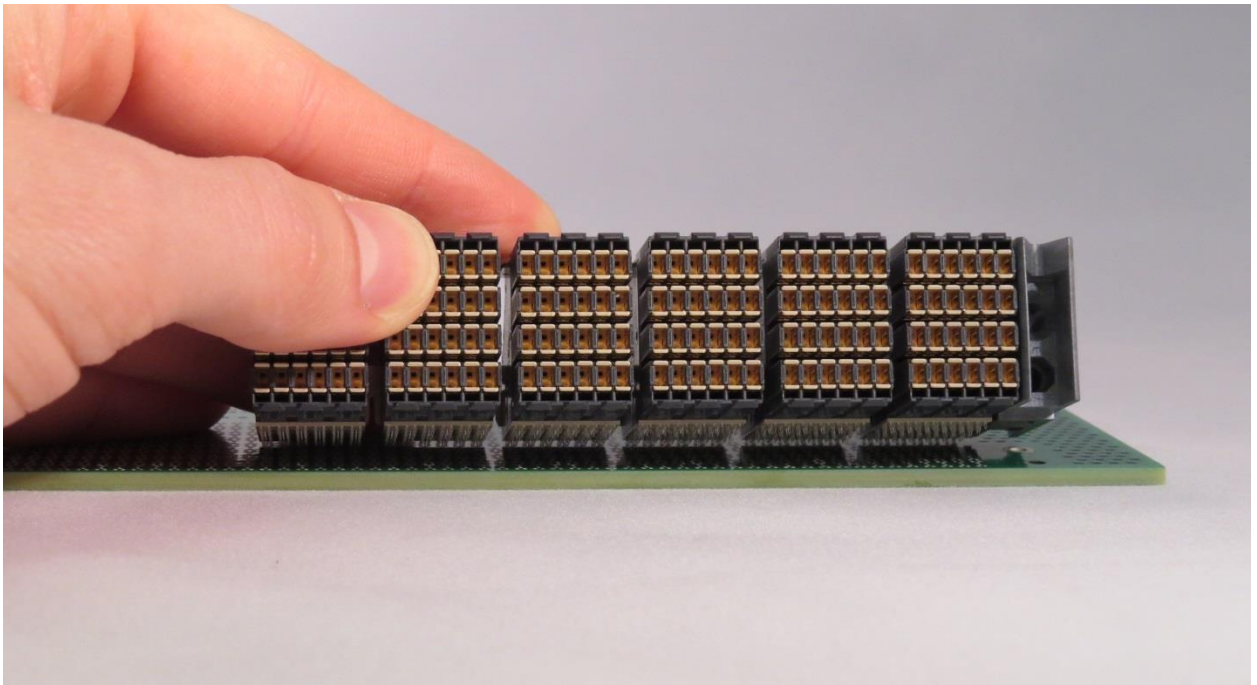
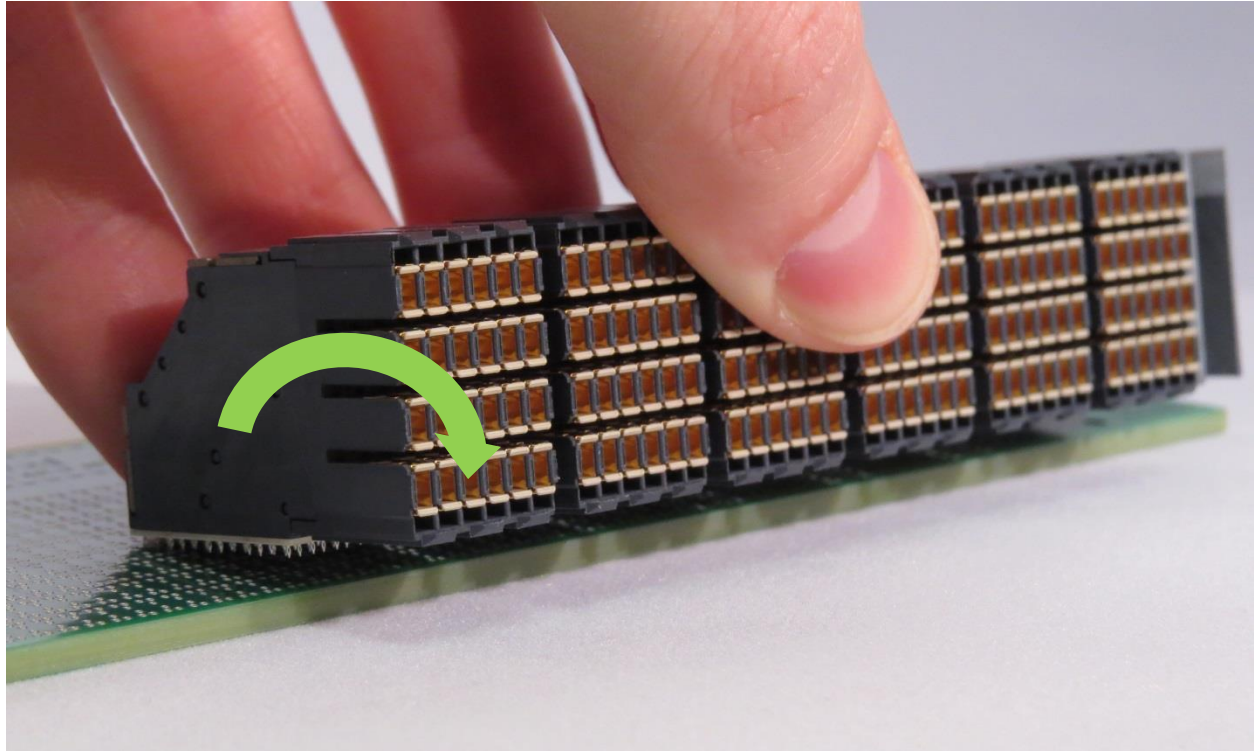
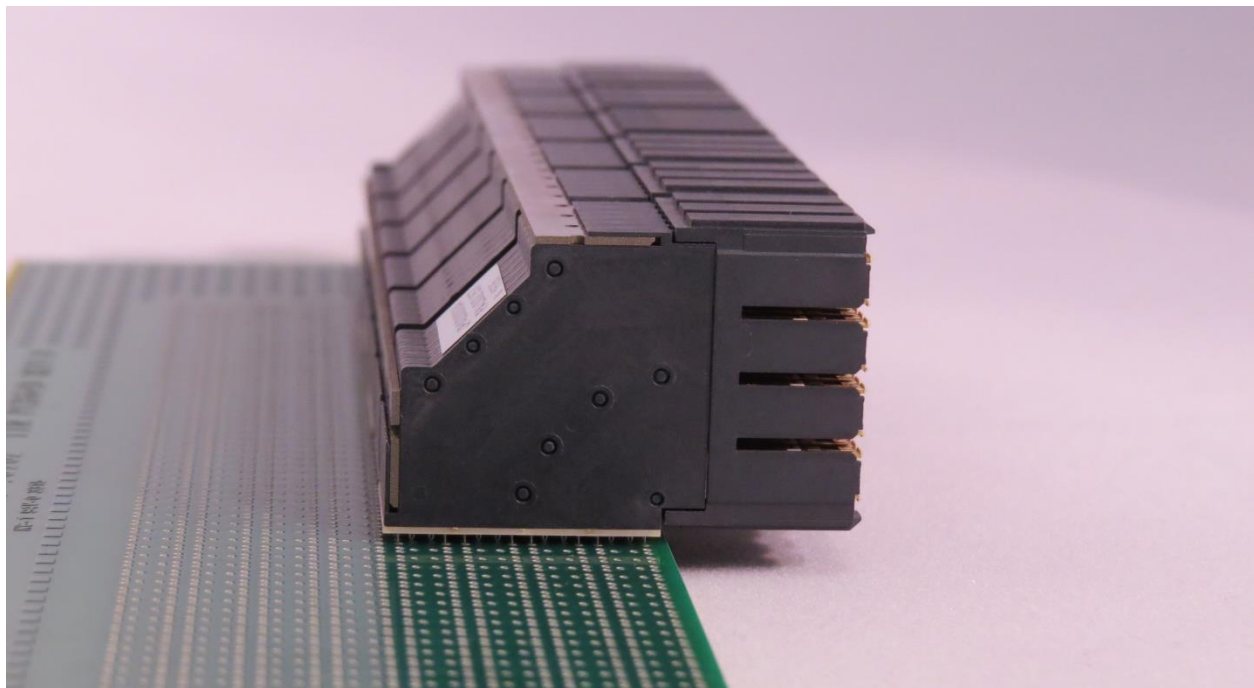
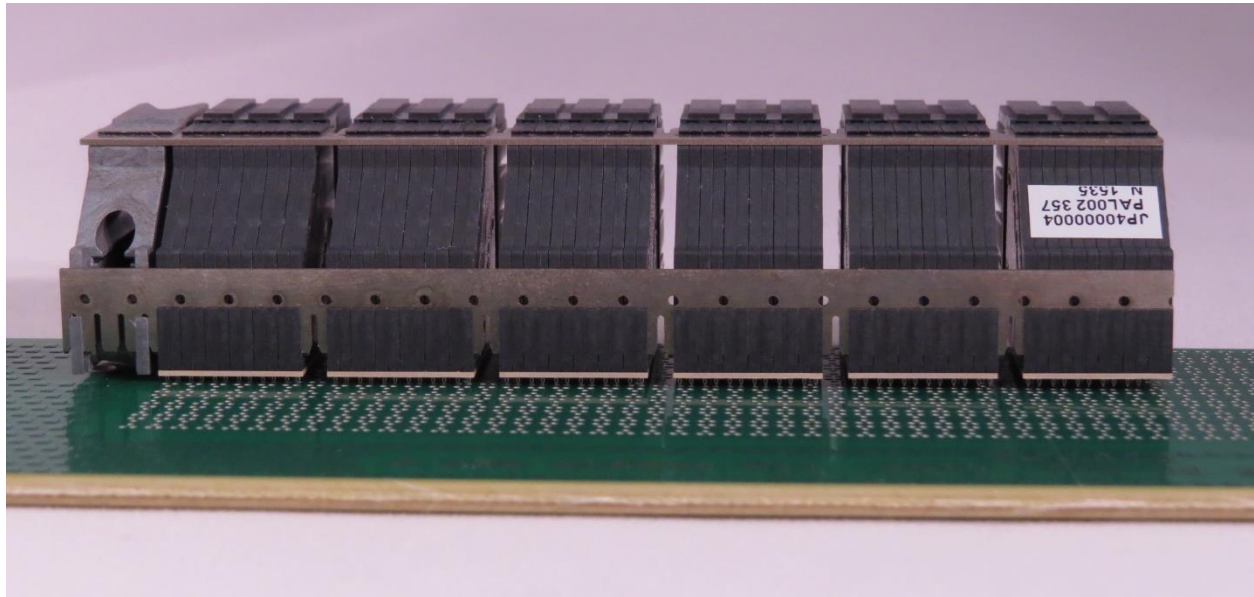

Figure 2: Back row of the DC connector compliant pins in the PTH.
Figure 3: With the back row entirely placed, roll connector toward board edge placing the remaining rows of compliant pins.
Figure 4: Side view of the assembly. Check for bent pins.
Figure 5: Rear view of the assembly. Check for bent pins.
Step 6. When placing the daughtercard connector on the PCB, orient the board and pallet so when the connector is placed, the window side will be facing you and the stiffener side will be facing away from you. Hold the connector up off the PCB, and place the back row of compliant pins into the correct plated through hole (PTH), see Figure 2. With the front of the connector still up off the board, roll the connector back to front, into the remaining PTHs (see Figure 3). Firmly press the connector to ensure proper engagement of the compliant pins in the PTH. Visually inspect that the visible compliant pins of the connector perimeter are properly preloaded into the PTH (see Figure 4 and Figure 5).